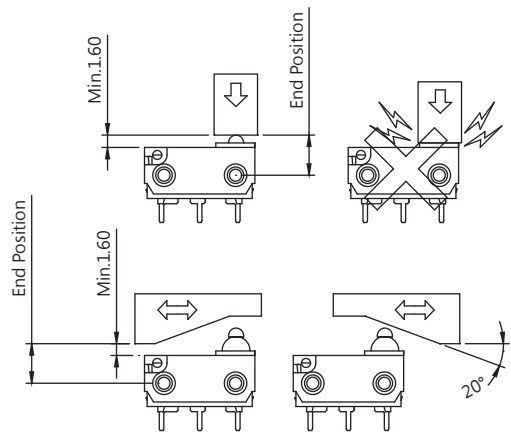

Figure-2
4. Do not exceed the end position (EP) and over travel (OT). This could cause operation failure. (Figure-2)